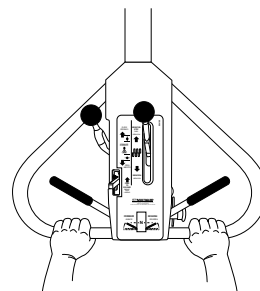

Figure 25. Travel Levers (Neutral Position)
1. With the engine running, both forward and reverse travel levers (Figure 25) should be in their neutral positions.